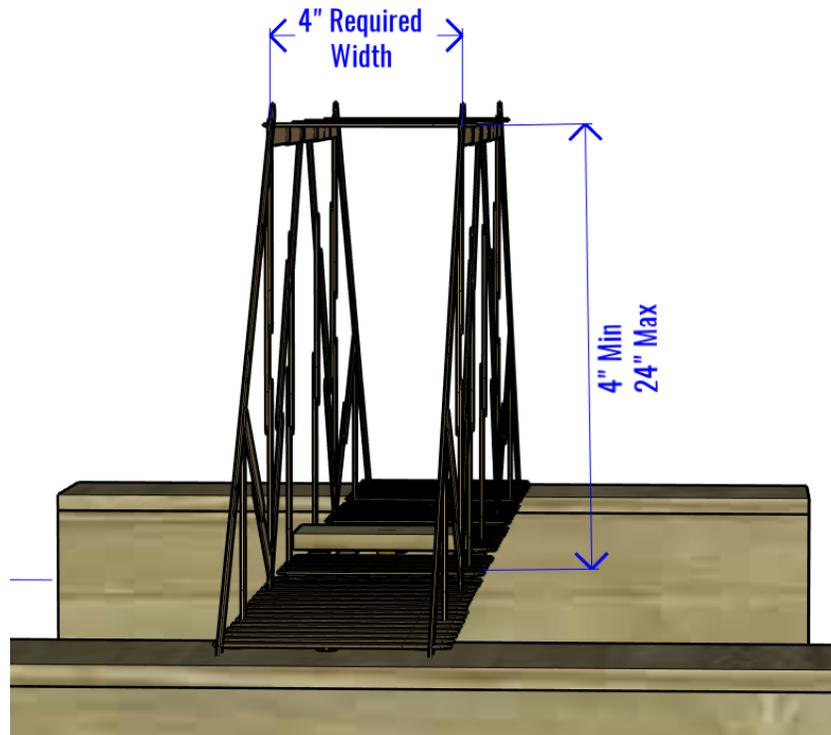

Figure 6 - Roadway Clearance and Height Requirements (not to scale)
- Bridge height shall not exceed 24 inches. Refer to Figure 6 below.
- Bridge roadway must have a minimum 4" width and a minimum 4" height clearance throughout to accommodate bridge use. Refer to Figure 6 below.